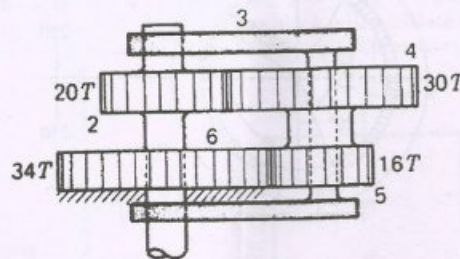

Fig. 2
12. (a) (i) With suitable illustration, explain the concept of interference in gear tooth action. (5)
- (ii) Fig. 2 shows a reverted planetary train. Gear 2 is fastened to its shaft and is driven at 250 rpm in a clockwise direction. Gears 4 and 5 are planet gears which are joined but are free to turn on the shaft carried by the arm. Gear 6 is stationary. Find the speed and direction of the arm. (8)